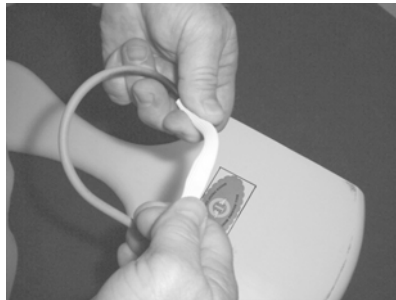

Fig. 5
- 4: Once you have pushed the rubber as far as it will go, grasp the end of the rubber that is on the bumper and pull on it, as your other hand pushes the rubber over the flattened end. (Fig 5)